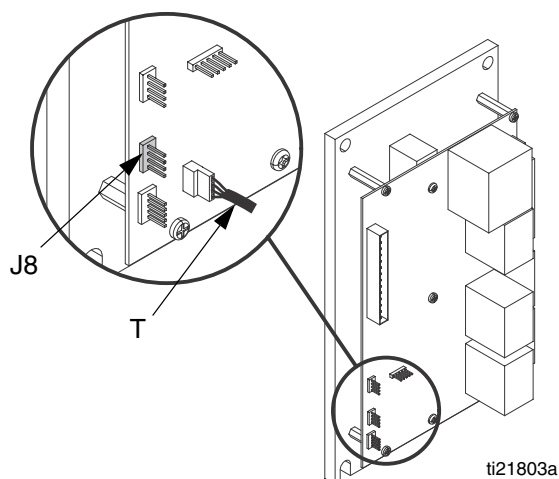

FIG. 4: Temperature Control Board
12. On the left wall inside the Reactor cabinet, locate and identify whether your system uses the temperature control module or temperature control board. See FIG. 4 and FIG. 5 for an example of each.
13. For models with temperature control board, connect TEMP cable (T) to J8 on board. See FIG. 4.